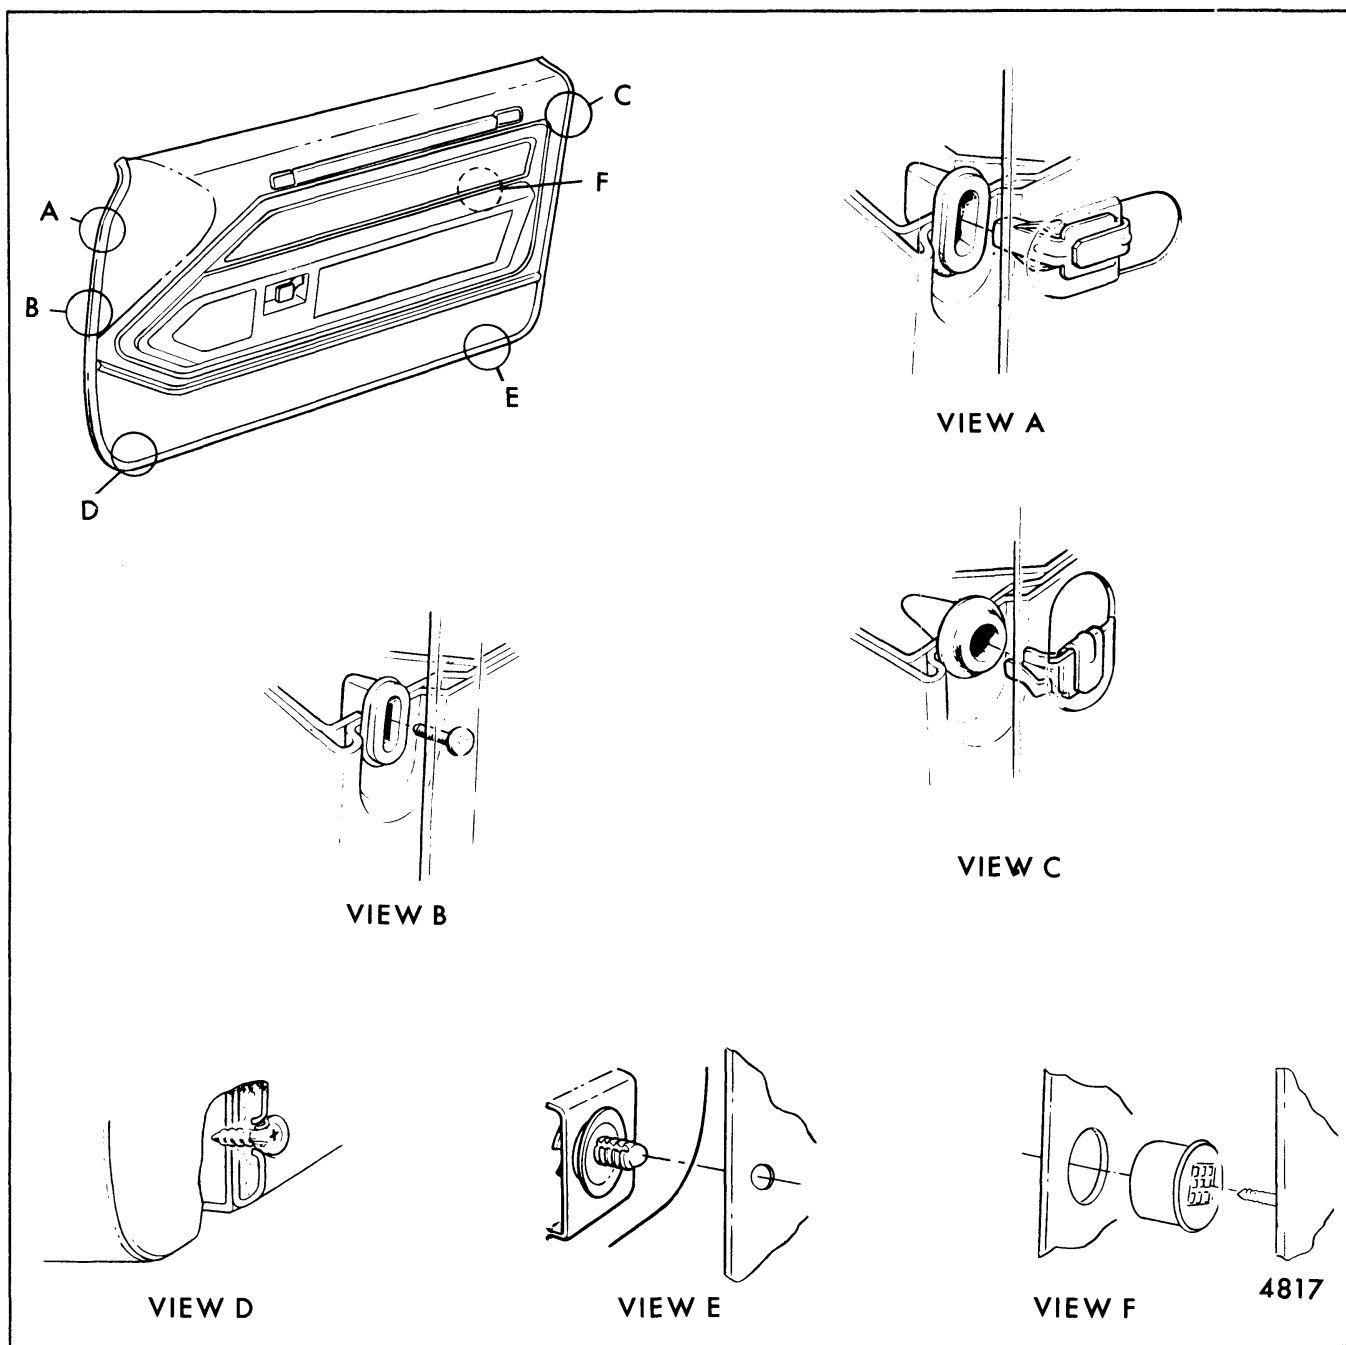

Fig. 5-13-Typical Types of Door Trim Retention
On "X" styles, the one piece trim hangs over the door inner panel across the top and is secured by clips down the sides, and across the bottom. (Fig. 5-13 is a composite illustration of the various types of door trim panel fasteners).
10. On "X" styles with one piece trim assemblies remove all clips down both sides and across bottom of door trim pad using tool J-9886 or equivalent (Fig. 5-13).